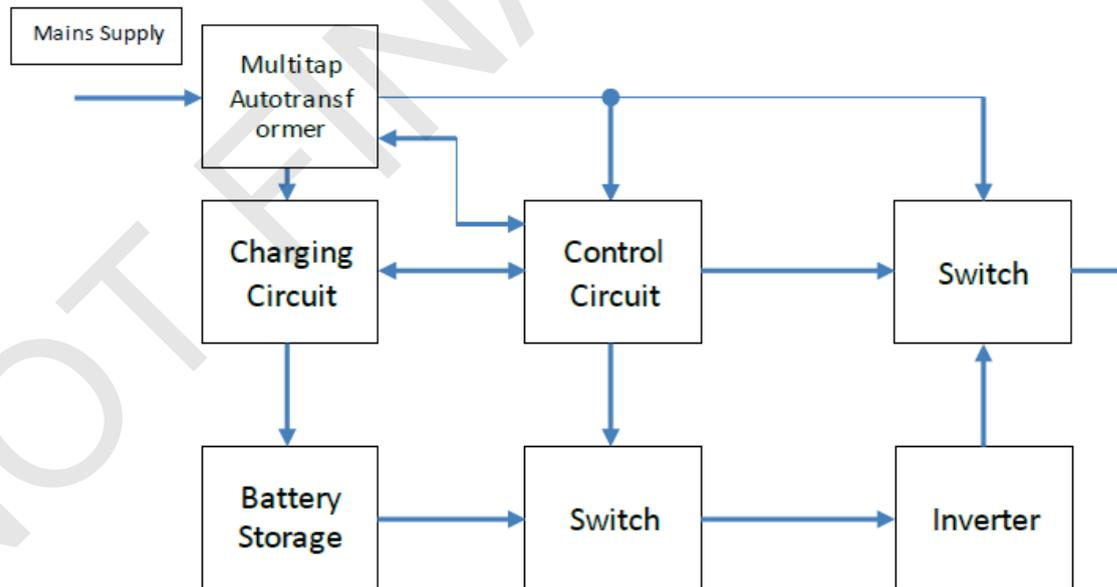

Figure 10.18 Simplified block diagram of a line-interactive UPS
- Line-interactive:** in this UPS configuration, the battery-supplied inverter is only activated when there is a power outage, or large over-voltage, or large under-voltage. For smaller and sustained under-voltage or over-voltage on the mains side, the UPS uses a multi-tap autotransformer, or a buck-boost transformer to increase or decrease the incoming mains supply to compensate for the incoming mains voltage. A block diagram of a line-interactive UPS is shown in Figure 10.18.